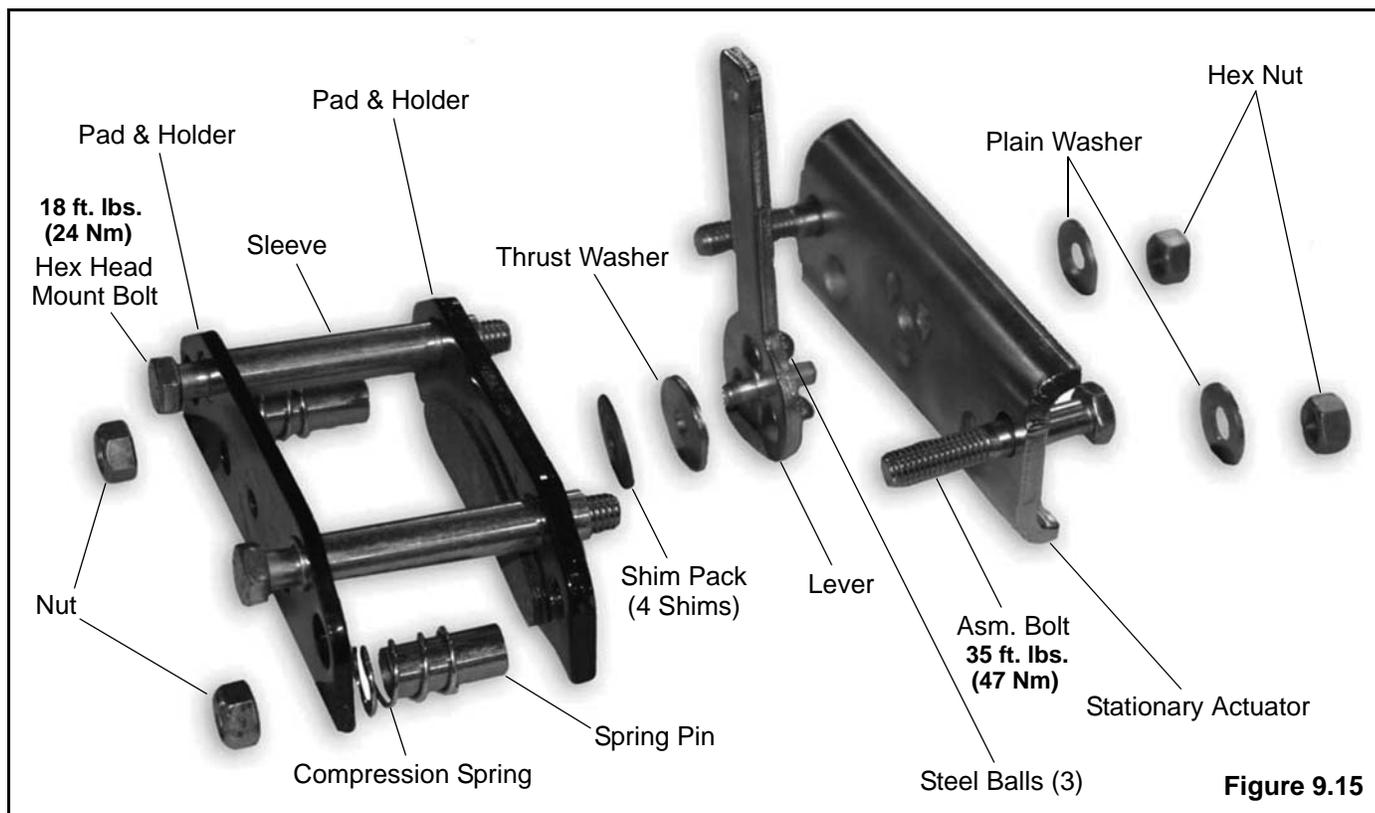

Figure 9.15
- Using the stationary actuator, assemble the caliper components as shown below. Do not install the springs or shims yet. Measure the gap for the brake disc. Disassemble and add shims between thrust washer and the inside brake pad as needed to close the gap to .203" - .193" (5.16 - 4.90 mm). For shim location, see **Figure 9.15** on page 15.